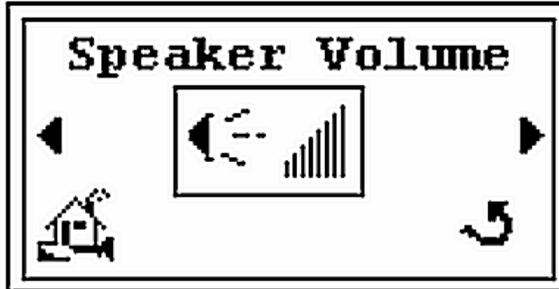

Figure 2-44 Speaker Volume Setup Screen
1. Press the  ,  , + or - hard buttons to highlight the *Home* screen Tools icon  and press **Enter** and the *Speaker Volume* screen appears (Figure 2-44).